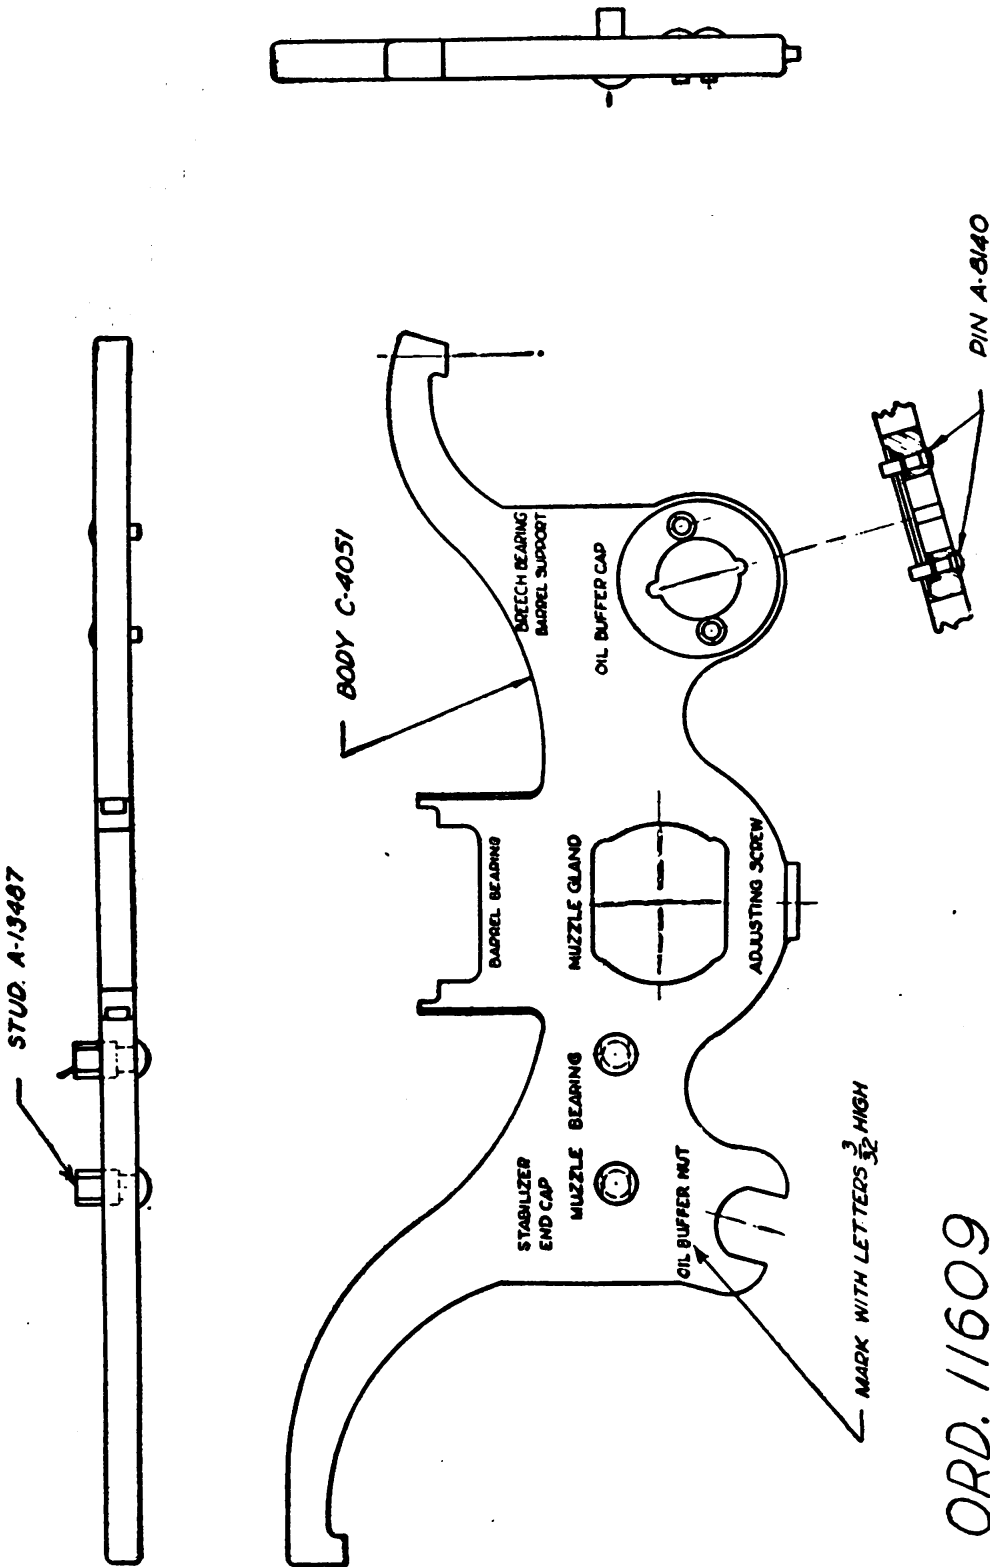

FIGURE 141.—Wrench, combination, M2.
*j. Wrench, combination, M2* (fig. 141).—This is a special tool for disassembling, assembling, and making adjustments of the gun. Each opening and projection is marked to show its purpose.